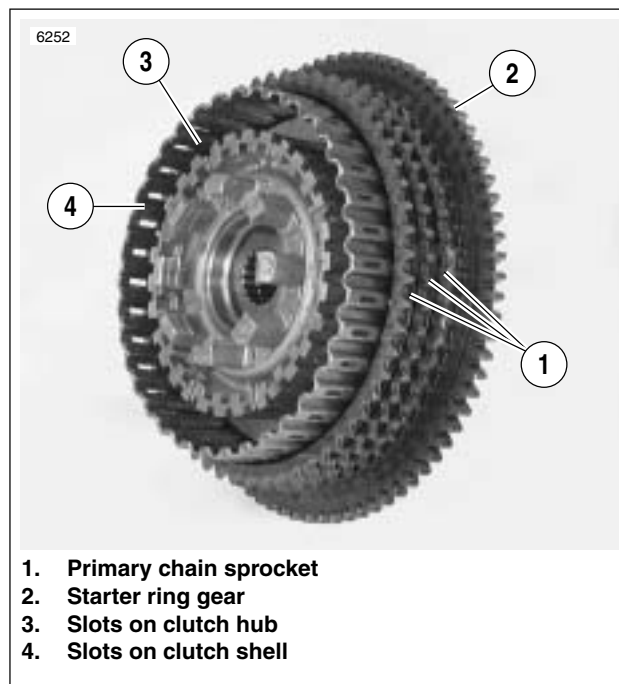

Figure 6-17. Checking Clutch Shell
6. See Figure 6-17. Inspect primary chain sprocket and the starter ring gear on the clutch shell. If either sprocket or ring gear are badly worn or damaged, replace the clutch shell. See 6.5 PRIMARY CHAIN.